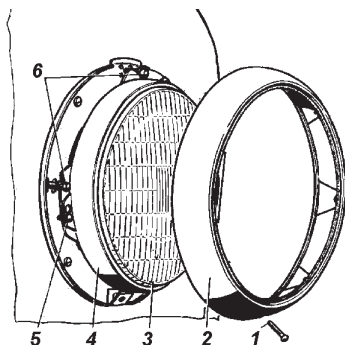
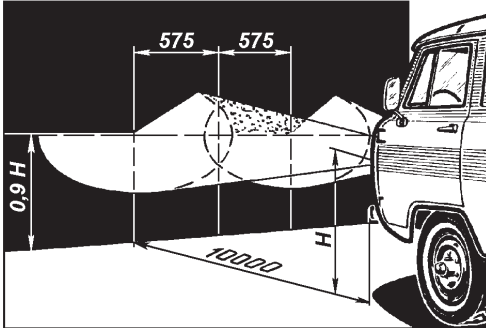

Fig. 9.38. Headlamp:
Fig. 9.39. Screen marking for headlamps adjustment:
1. Disconnect tube 2 (Fig. 9.38) from battery 5;
To replace a bulb in the lamp, untwist screw 1 (Fig. 9.38) and remove decorative ring 2. Loosen three screws 5 and remove inner ring 4 with beam element 3.
3. Turn on the low beam and, closing one headlamp, adjust the other one with screws 6 (see Fig. 9.38), so that the light spot on the wall or on the screen is located as shown in Fig. 9.39. Adjusting screws of the headlamps are located symmetrically to the headlamps center in a horizontal plane.